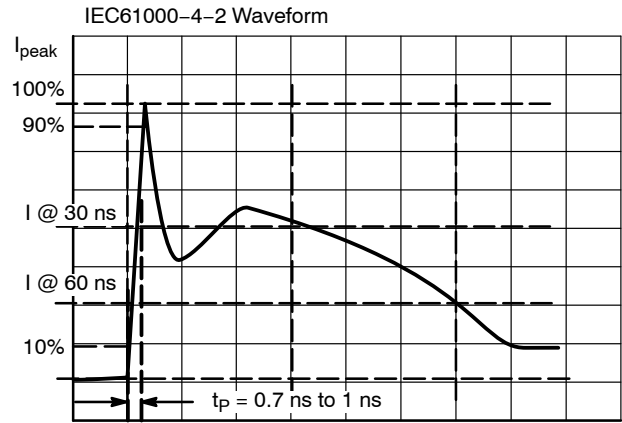

Figure 5. IEC61000-4-2 Spec
- Typical waveform. For test procedure see Figures 5 and 6 and Application Note AND8307/D.